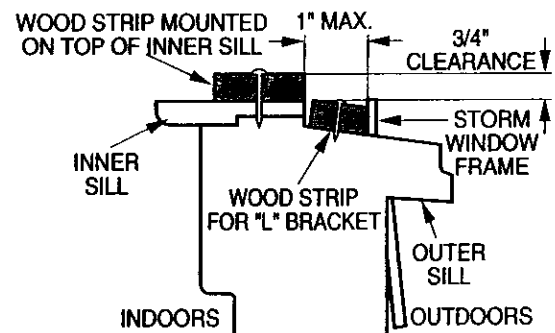

Figure 80
- If storm window presents interference, fasten a 2" wide wood strip to inner window sill across the full width of the sill. Wood strip should be thick enough to raise the height of the window sill so that the unit can be installed without interference by the storm window frame. See Figure 80.
- Install a second wood strip (approximately 6" long 1" wide and same thickness as first strip) in the center of the outer sill flush against the back of the inner sill. This will raise the L bracket as shown in Figure 80.